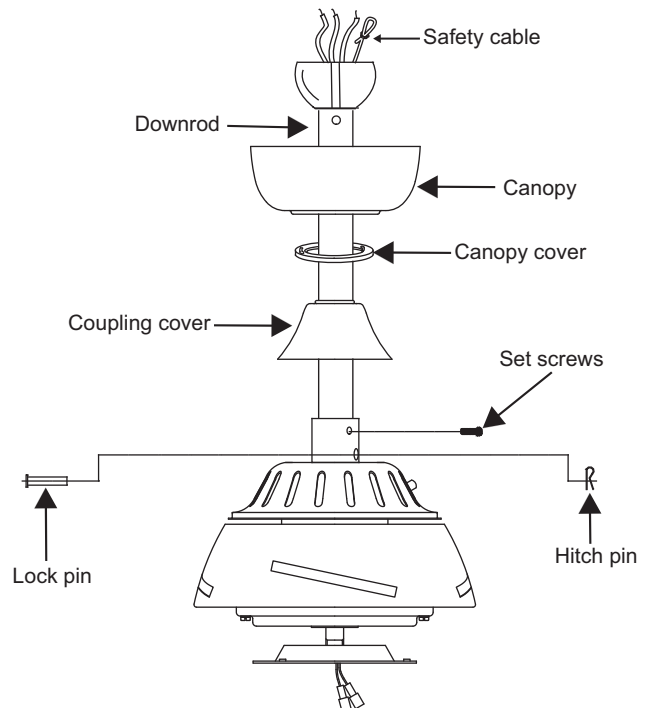

Figure 7
**Step 6.** Route the safety cable and wires exiting from the top of the fan motor through the collar cover, canopy cover, canopy and then through the ball / downrod. (Fig. 7)
**Step 7.** Align the holes at the bottom of the downrod with the holes in the collar on top of the motor housing (Fig.7). Carefully insert the hanger pin through the holes in the collar and downrod. Be careful not to jam the pin against the wiring inside the downrod. Insert the locking pin through the hole near the end of the hanger pin until it snaps into its locked position, as noted in the circle inset of Fig. 7.
**Step 8.** Tighten two set screws on top of the fan motor firmly. (Fig. 7)